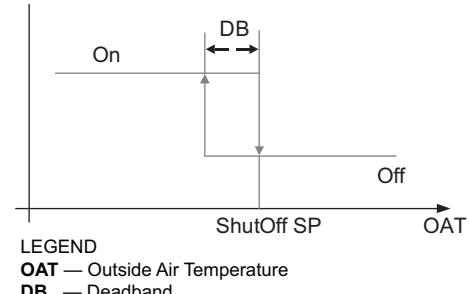

Fig. 53 — Hysteresis Settings
Hysteresis setting (DB) defaults to 2°F (−17°C). See Fig. 53.